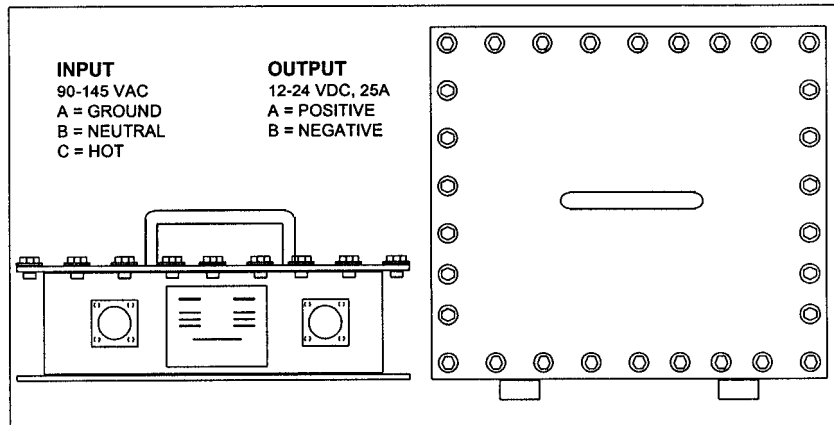

Figure 6-3
- a. The power supply has a gasketed cover and is suitable for use in an exposed marine environment (Figure 6-3). The supply can be pole mounted or installed in a vented enclosure.
switch. Early models are provided with connectors but must be made up at a facility capable of soldering the pin connections. Later versions came with a 10 foot pig-tail attached to each connector. Pin connections are detailed in Figure 6-3. Use 10/3 or 12/3 SO cable for input to the supply.
- c. The output is capable of supplying up to 25 amps. Pin connections are detailed in Figure 6-3. Up to 6 AWG wire may be installed in the connectors or spliced to the pig-tails to limit voltage drop to the load.